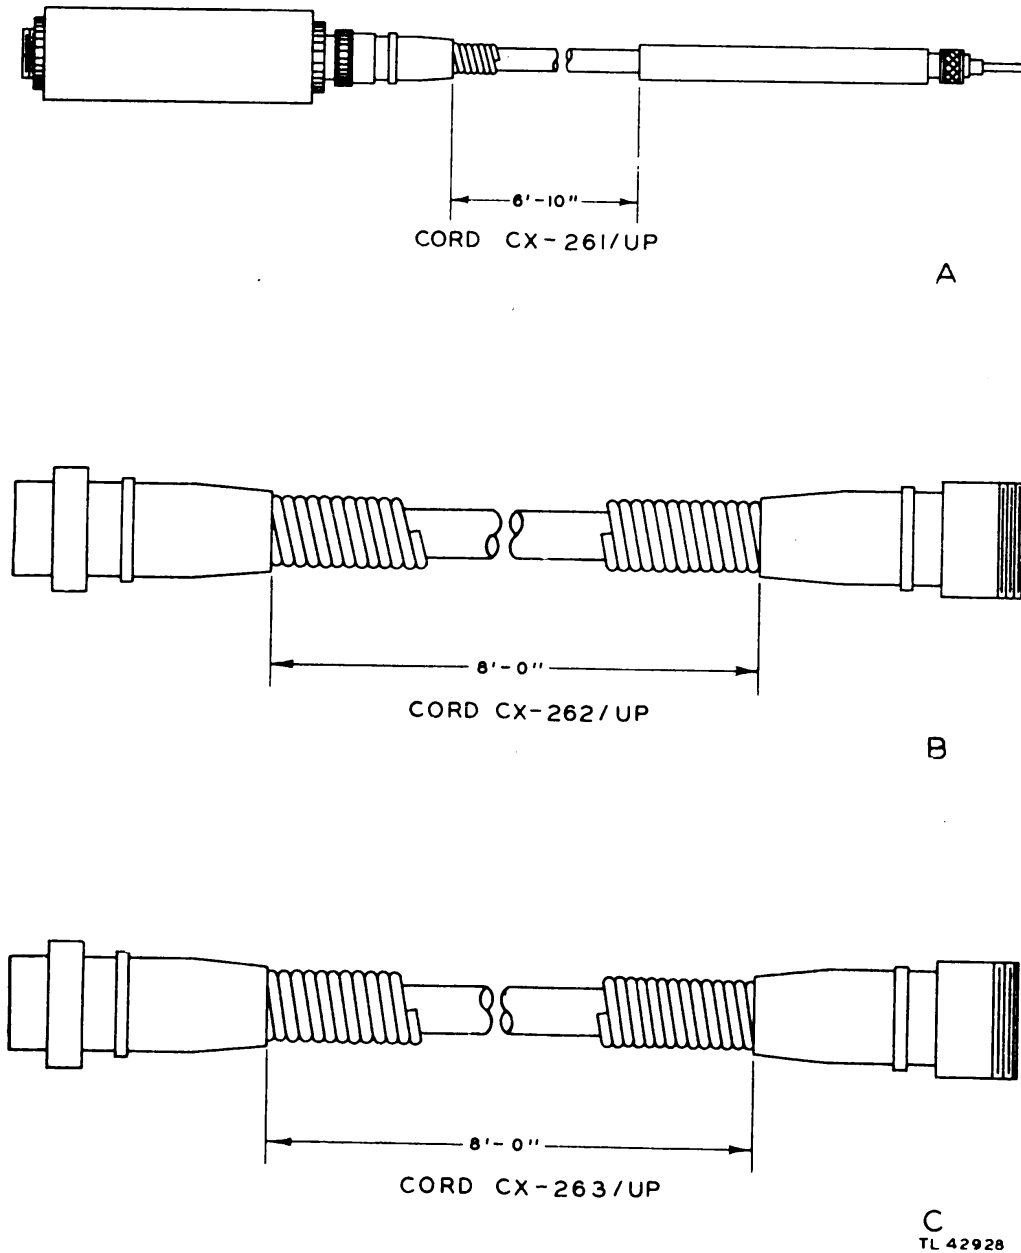

Figure 18. Details of Cords CX-261/UP, CX-262/UP, and CX-263/UP.
- (1) Range Indicator BC-1088 to Range Rectifier RA-72.
- (2) Range Indicator BC-1088 to Data Panel PN-22.
- (3) Plan Position Indicator BC-1092 to Plan Position Rectifier RA-69.
**u. Cord CX-261/UP (fig. 18-A).** This cord is a 6-foot 10-inch length of single-conductor cable type CW-1125 as made by General Electric Company, or the equivalent. It is terminated at one end with a test prod ICA No. 390B and at the other end with a special connector assembly. This cord is used with the test oscilloscope.
**v. Cord CX-262/UP (fig. 18-B).** This cord is an 8-foot length of single-conductor cable type 8421 as made by Belden Manufacturing Company, or the equivalent. It is terminated at one end with a plug Amphenol No. 80M and at the other end with a plug Amphenol No. 80F. This cord is used to connect Remote Video Amplifier BC-1074 to Range Indicator BC-1088.
**w. Cord CX-263/UP (fig. 18-C).** This cord is an 8-foot length of single-conductor cable type 8421 as made by Belden Manufacturing Company, or the equivalent. It is terminated at one end with a plug Amphenol No. 80M1 and at the other end with a plug Amphenol No. 80F1. This cord is used to connect Field Rectifier RA-71-B to Plan Position Unit BC-1058.